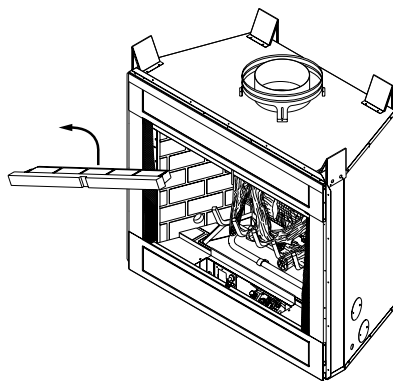

Figure 13 - Removing Front Refractory Access Panel
1. Remove the front refractory access panel by lifting up and angling out of the firebox opening (see Figure 13).